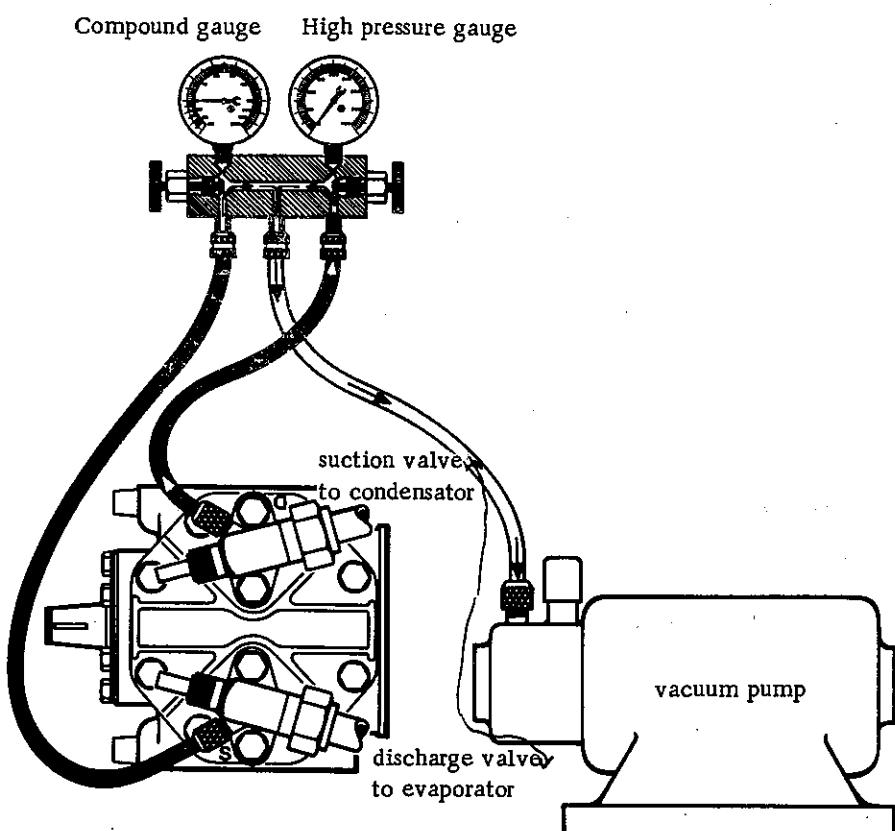

Fig. 9
5. Connect hoses of manifold gauge set (refer to Fig. 9). Connect hose from compound gauge to suction